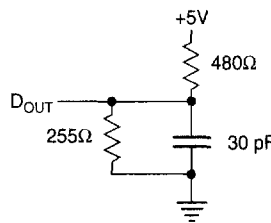

Figure 2. Output Load Equivalent
6. Transition is measured  $\pm 500$  mV from steady-state voltage with load of Figure 2. This parameter is sampled rather than 100% tested. At any given voltage and temperature,  $t_{CHZ}$  max is less than  $t_{dc1}$  min for a given device and from device to device.